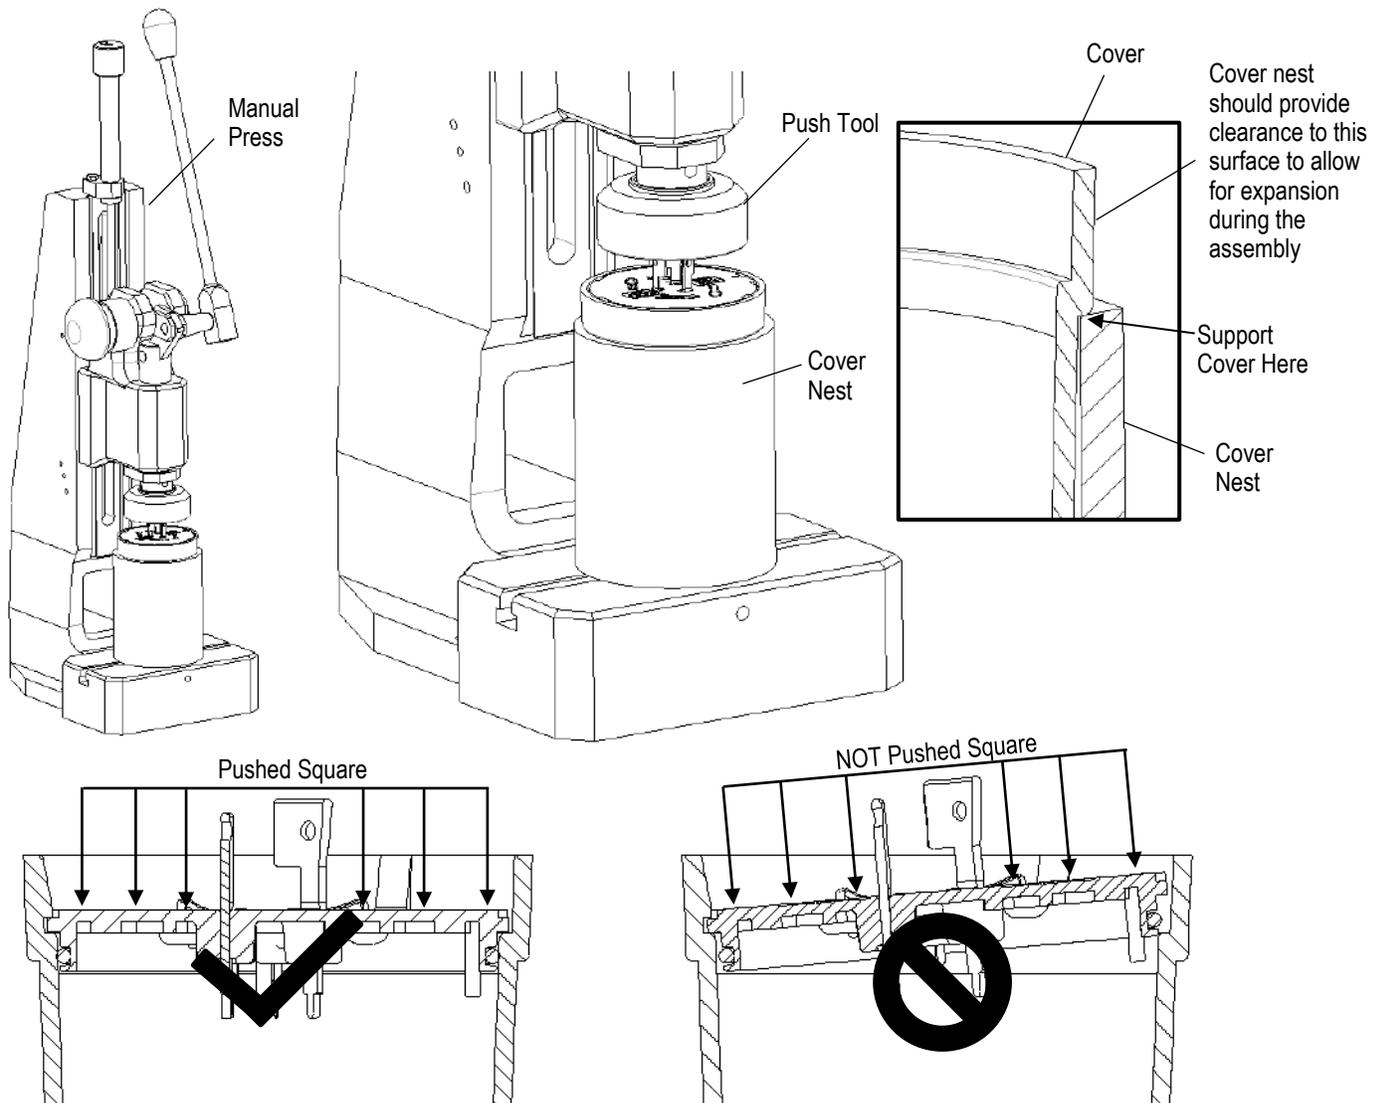

Figure 3b
B. Press the cover onto the base ensuring that the cover is aligned squarely to the base and the base is solidly supported. Reference figures 3b and 3c.